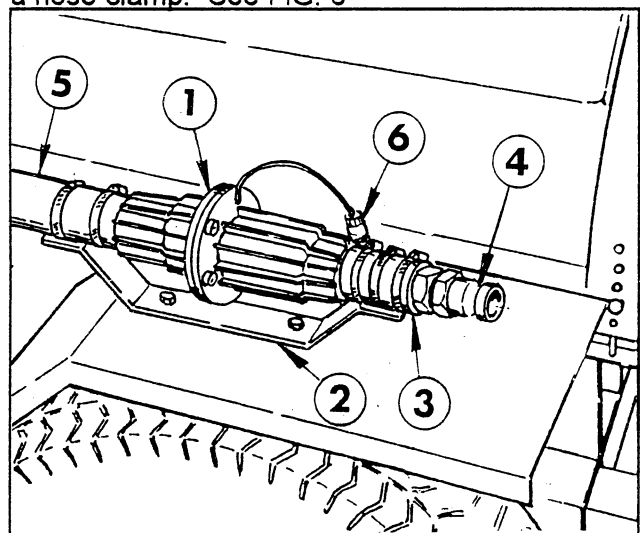

FIG. 8
1. Attach a 1-1/4" x 3" Adaptor Hose to the barb on the outlet end of the Flow Meter. Secure with a hose clamp. See FIG. 8
4. Secure the Flow Meter to the Mounting Bracket with the two (2) hose clamps furnished.
5. Position the completed Flow Meter Assembly on the Mounting Bracket as shown in FIG. 8.
6. Install the Mounting Bracket to the Vehicle's left rear fender, using two (2) 5/16 x 1" cap screws, flat washers and hex nuts. See FIG. 8.
8. Connect the 1-1/4" x 18" Supply Hose between the barb on the inlet end of the Flow Meter and the hose barb in the tee at the Pump. Secure with two (2) hose clamps.